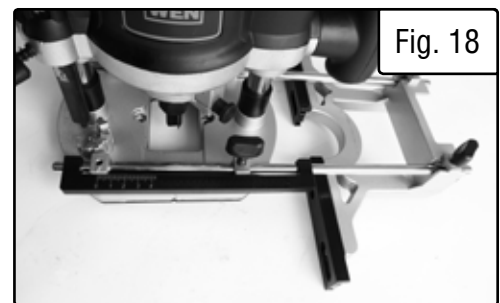

Fig. 18
5. The fence pole scale can be clamped onto one of the fence poles to measure the distance between the bit and the edge of travel (Fig. 18).